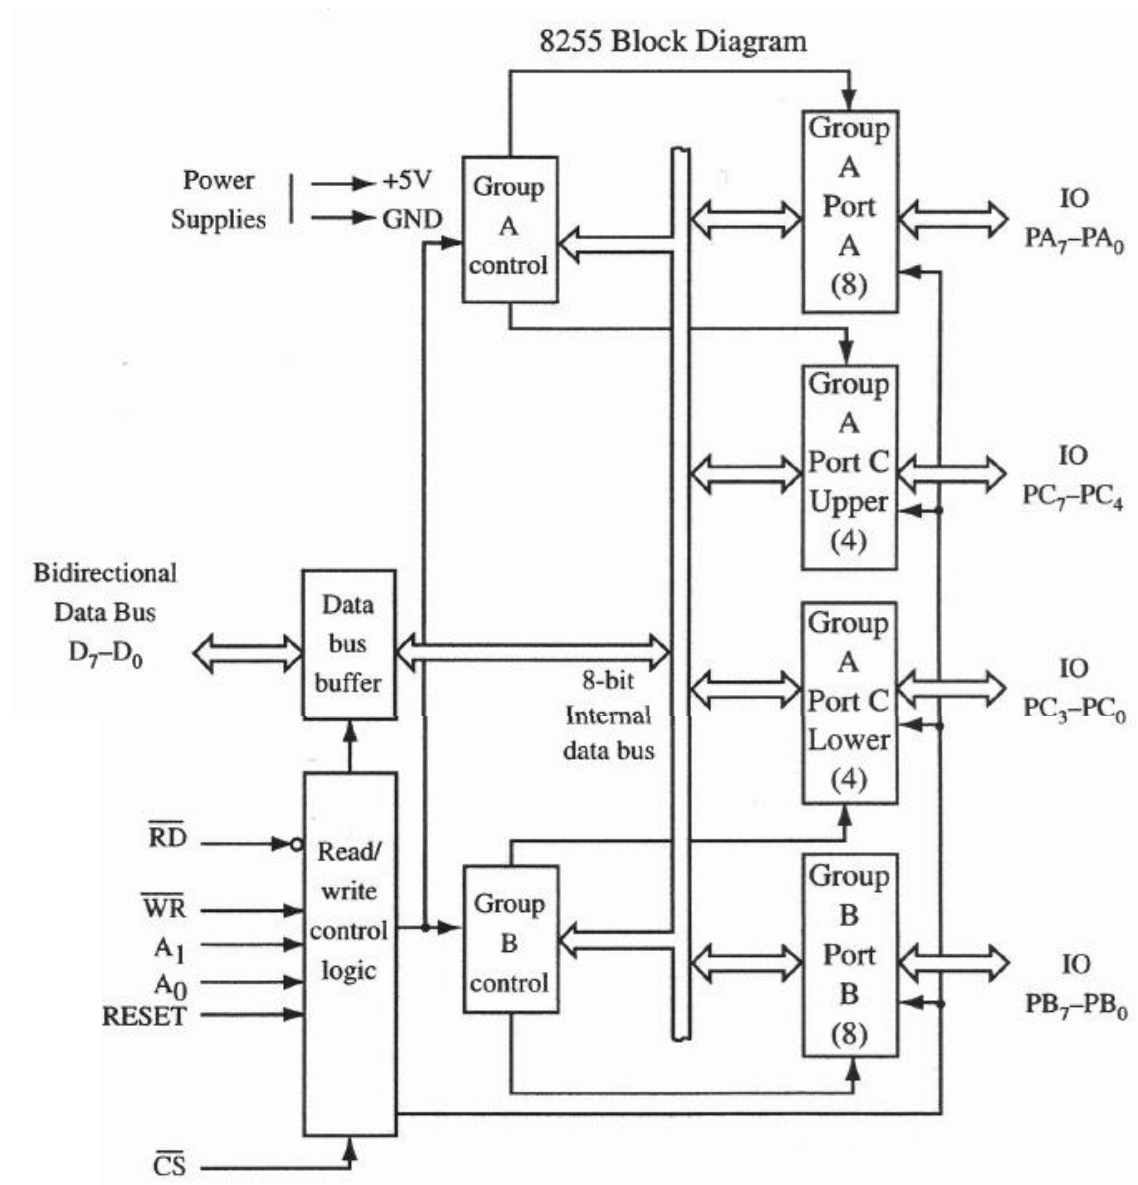

Figure 2: Block diagram of the 8255
- The block diagram of the 8255 is shown in Figure 2.